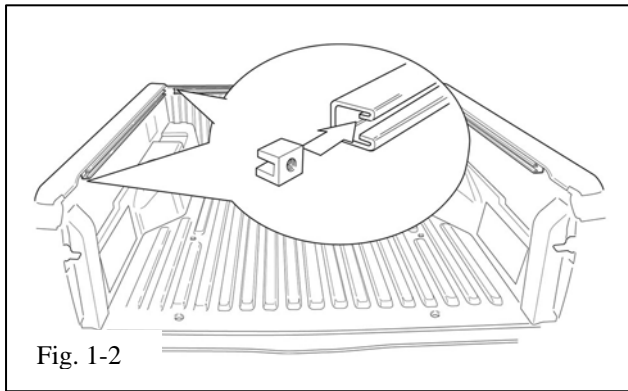

Fig. 1-2
- (c) Slide two c-channel retainers into the side rail and one c-channel retainer into the front rail. (Fig. 1-2)